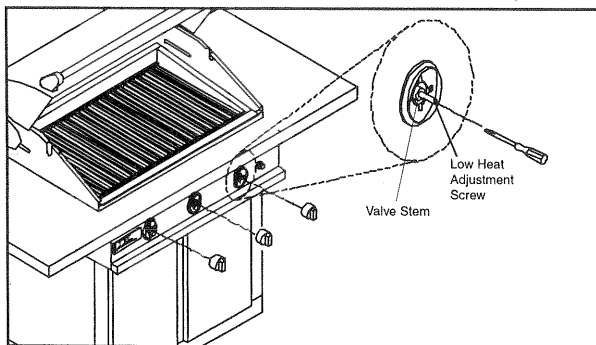

Figure 9. Low Heat Adjustment
3. Remove the Burner Output Knob from the valve stem. (See Figure 9.)